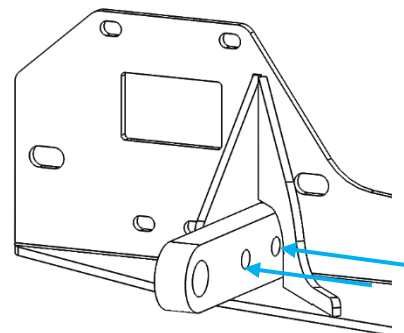

Figure 20: Tow Hook Installation
28. Install tow hooks into your front receiver using the ½”-13 hardware provided, along with accompanying nuts and washers (Figure 20).